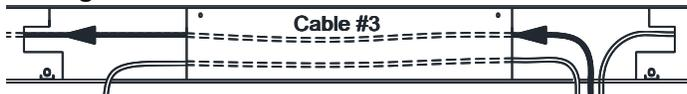

Fig 12 – Cable #3 Routing
- 11) Starting from the rear of the lift. Identify **Cable #3** using **Fig 4**. Route **Cable #3** through the access hole and out the end of the crossbeam. **Fig 12 & 13**.